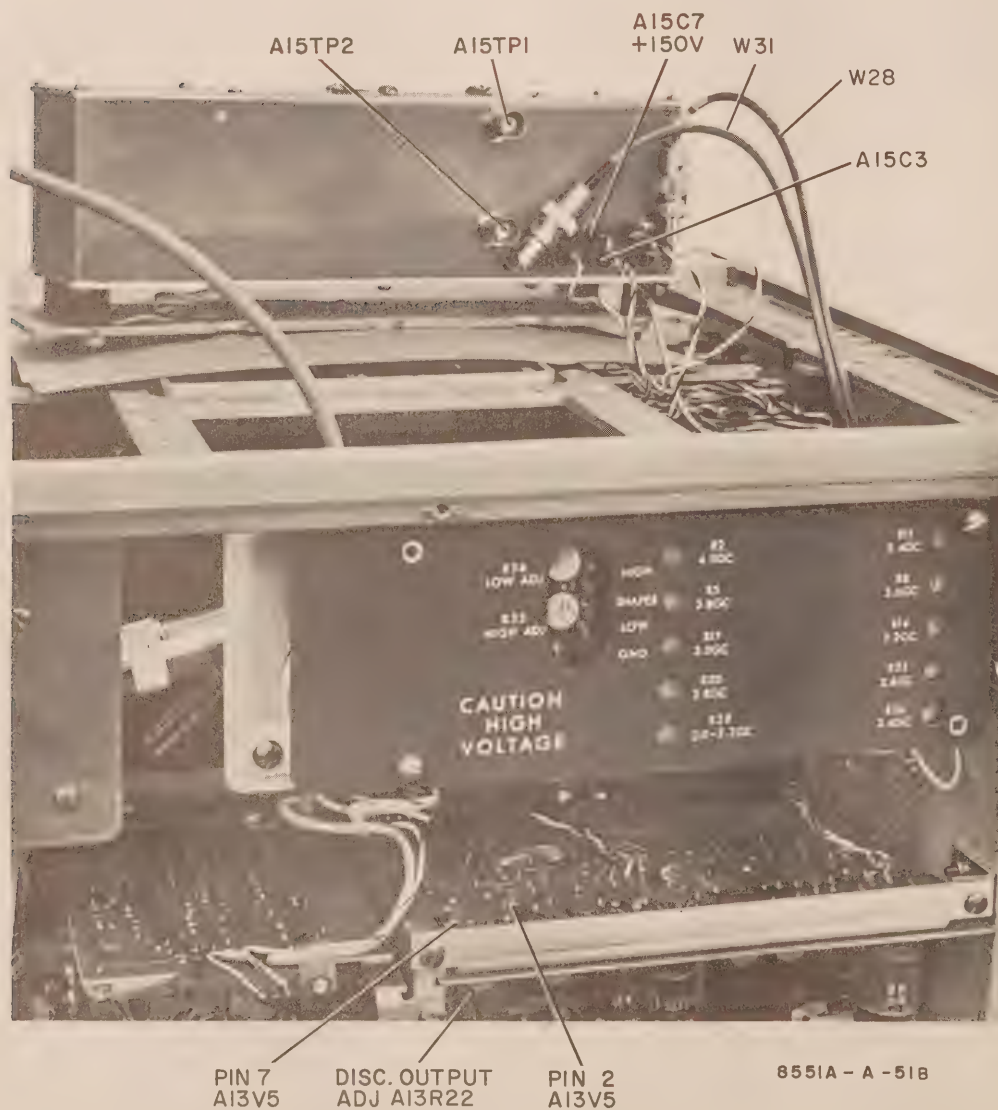

Figure 5-15. Test Points for Lock Assembly Adjustments
- a. Remove top and right side covers of 8551B; disconnect Cables W28 and W31 at Connectors J27 and J30 (see Figure 5-15).
n. Connect oscilloscope vertical input to pin 2 of A13V5. (See Figure 5-15.)
u. Short pins 2 and 7 (grids) of A13V5 to ground (see Figure 5-15).
v. Adjust A13R19 (Figure 7-30) for a voltage at A15C3 (sweep input to Lock Assembly A15; see Figure 5-15) +30 V above the +150-V supply (since the recommended digital voltmeter has only four digits, connect the voltmeter reference lead directly to +150 V for best resolution; A15C7 (Figure 5-15) is a convenient point to make this connection.)